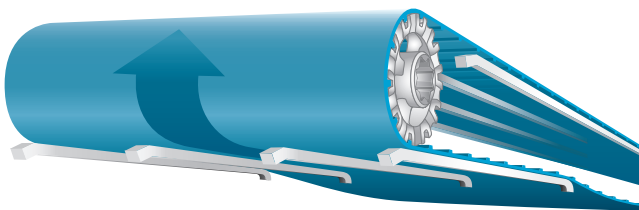

Figure 24
- ◊ Place support rails or similar at the returnway immediately before the pulley (Figure 24) to control belt position.